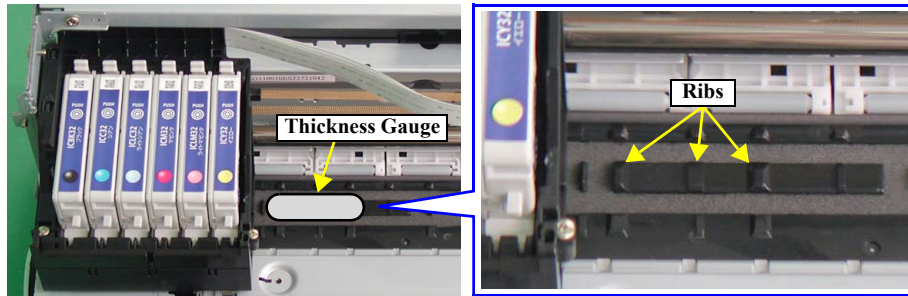

Figure 3-8. Setting Thickness Gauge
- Move the Carriage Unit back to the left edge of the printer, then set the Thickness Gauge (1.46mm) on the ribs (x3) of the Front Paper Guide in the same way as the Figure 3-8.